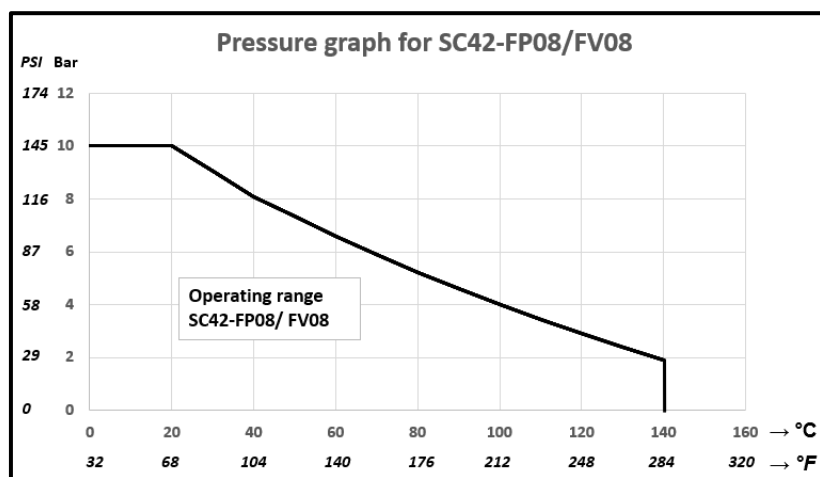

Figure 2: Pressure vs Temperature
**Note 4** : Pressure range for FP/FV is temperature dependent, see Figure 2